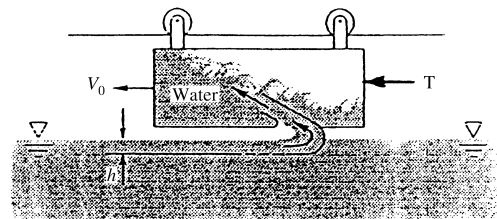

Fig. P3.107
3.107 The cart in Fig. P3.107 moves at constant velocity $V_0 = 12$ m/s and takes on water with a scoop 80 cm wide which dips $h = 2.5$ cm into a pond. Neglect air drag and wheel friction. Estimate the force required to keep the cart moving.